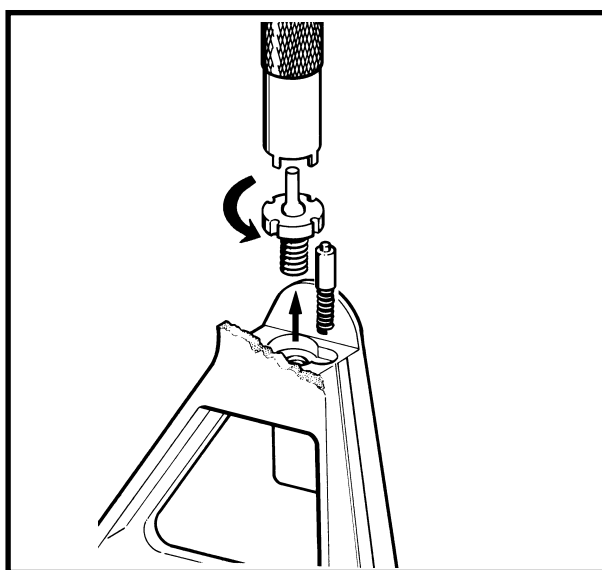

Figure 3-2-18 Removing the Front Sight Components
- (1) Position the front sight post adjusting tool over the post and press down to depress the detent;
- (2) Unscrew the front sight post in a counter-clockwise direction, as viewed from above; and
- (3) Remove the post, detent and spring. See Figure 3-2-18.